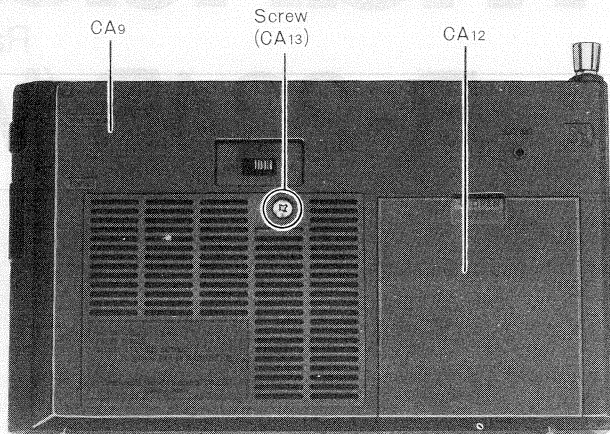

Fig. 1
1. Remove cabinet cover screw, as illustrated in fig. 1.